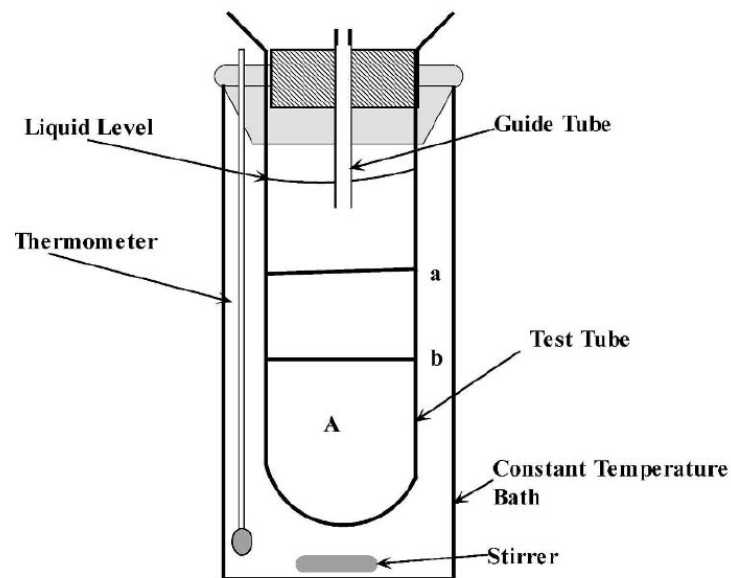

Fig.1 Falling ball viscometer (Viswanath *et al*, 2007).
1. Consider the system shown in Fig. 1, a sphere (any other shape and size can be used) is left to fall through a homogeneous fluid. If the motion of the sphere is sufficiently slow, the inertia terms become negligible.